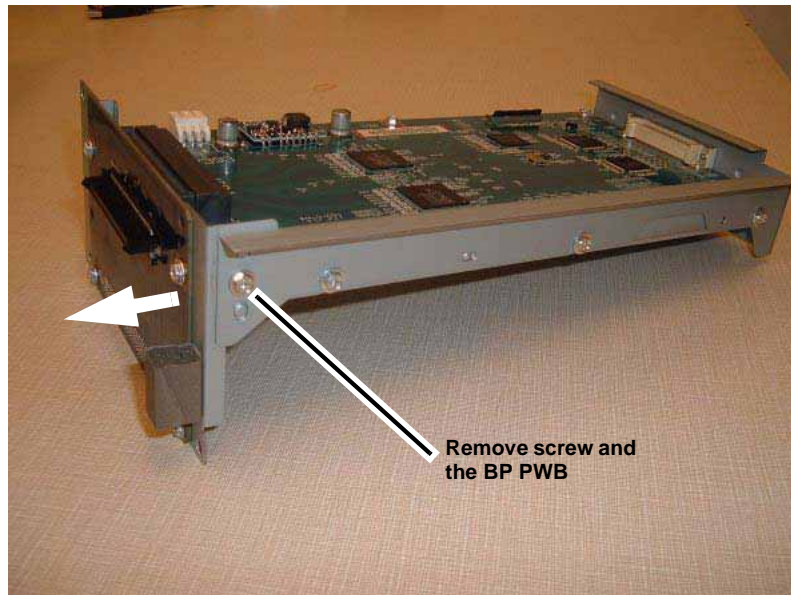

Figure 4 Removing the BP PWB
5. Remove the BP PWB (Figure 4).